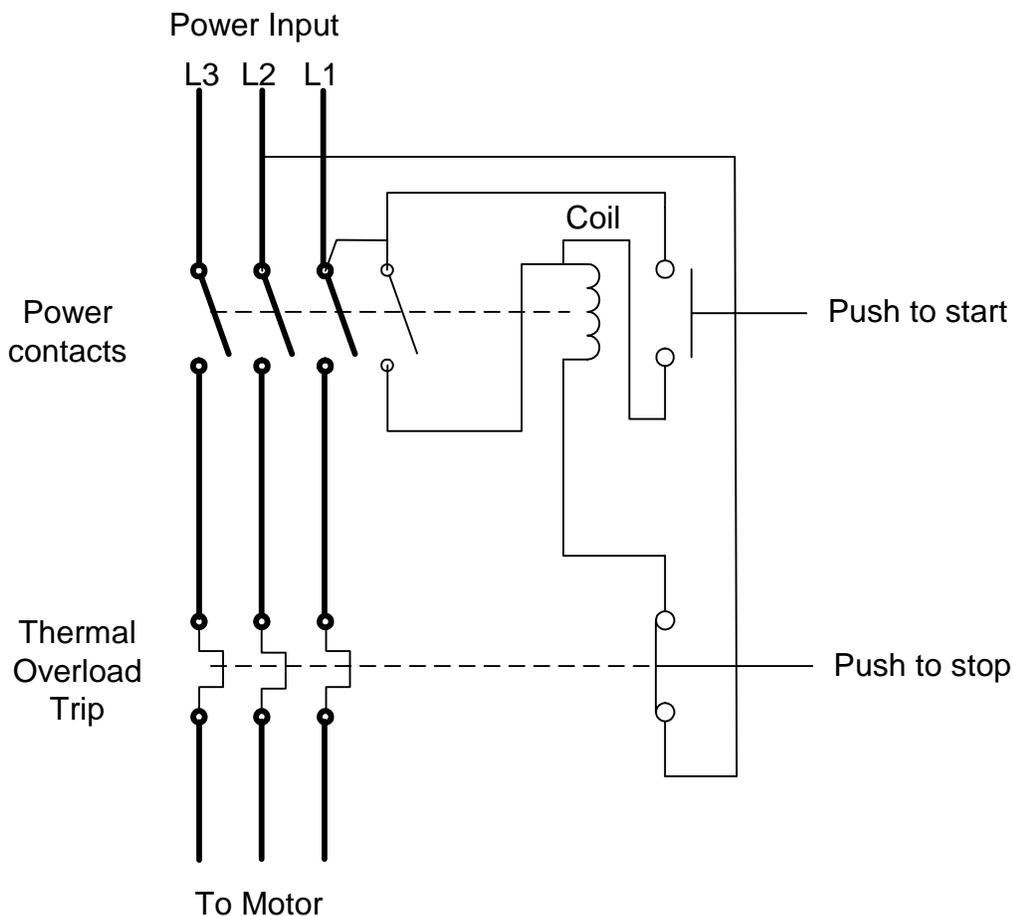

Figure 9 A typical 3 phase DOL Starter circuit diagram
Figure 9 shows the basic components of a DOL starter with NVR and Thermal protection relay. The main power path is shown in bold. Three normally open heavy current switches connect the supply through to the thermal overload relay. These have heating elements that warm up when sustained high current passes through and trips the stop switch on the bottom right if any of the supplies is overloaded. The trip does not trigger for short-term overloads or during starting. The overload relay should be selected to match the current range of the motor and further adjusted to trip at about 20% more than the current on the motor rating plate.
The single phase starter switch is almost identical apart from having one less switch pole (delete L3 in Figure 9) and the coil must be designed for 220-240 operation. L1 and L2 above become Line and Neutral.
Most DOL starters can be operated by extra push buttons allowing the starter to be perhaps located nearer the motor and the control buttons close the operator. Furthermore an emergency stop switch can be located for foot operation on machines where both hands are normally busy supporting the work piece. Referring to figure 9\*, extra start switches with **normally open (NO)** contacts may be wired in parallel with or replacing the existing start switch. Extra stop switches with **normally closed (NC)** contacts may be wired in series with or replacing the existing stop switch. Whilst these extra switches are only low current, they are still operating at the full supply voltage so attention needs to be paid to earthing any exposed metalwork and suitably protecting the cable path from the starter to the push button station.
Figure 9 shows a 3 phase starter but the principles for remote starting of single phase motors use the same principles. Ignore L3, consider L1 and L2 to be Live and Neutral.